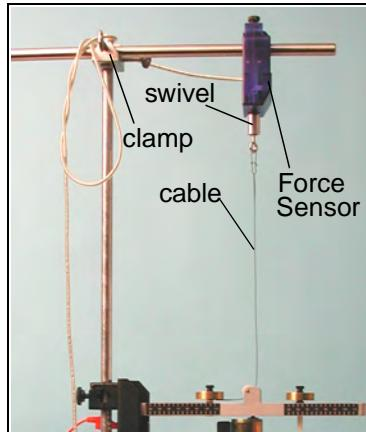

Figure 5a: Mounting the Force Sensor
5. Attach a Multi-Clamp to the upper end of the stainless steel rod. (Figure 5a).
7. Slide a Force Sensor through the stainless steel rod and adjust the top screw to anchor it to the rod (Figure 5a). (Note: Be sure to keep the cords from the sensor out of the path of the rotating arm.)